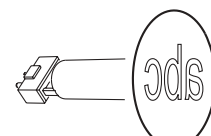

Figure 10. Correct gobo orientation
The orientations shown in Figure 10 are correct in most cases, but consult your Martin dealer or gobo supplier if you are in any doubt about the orientation of a specific gobo type.
4. Insert the new gobo in the holder with the side that faces towards the lamp facing upwards, towards the spring (see Figure 10 and Figure 11).
4. To insert a gobo, orient the gobo as shown in Figure 10 and place the edges under the retention spring. Verify that the gobo is centered in the opening.